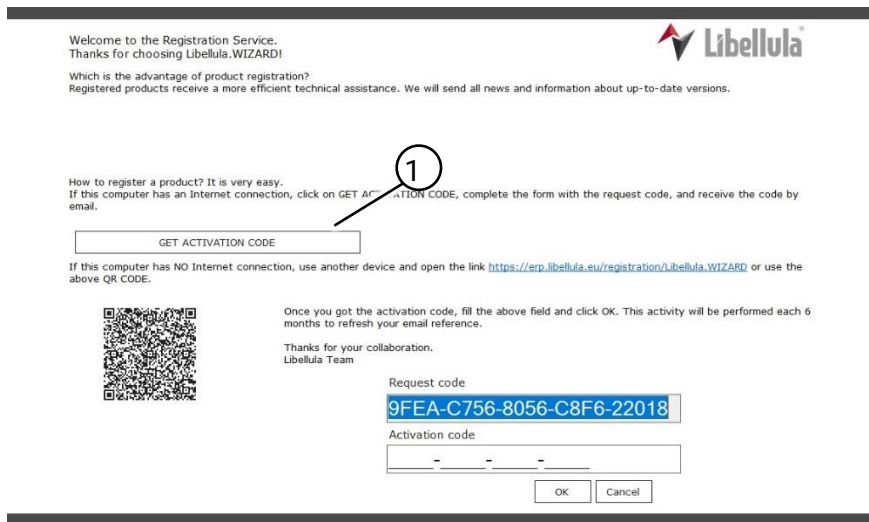

Fig. 33 SwiftCAM-activeringsvenster
Selecteer 'Get Activation Code' (Fig. 33 (1)).